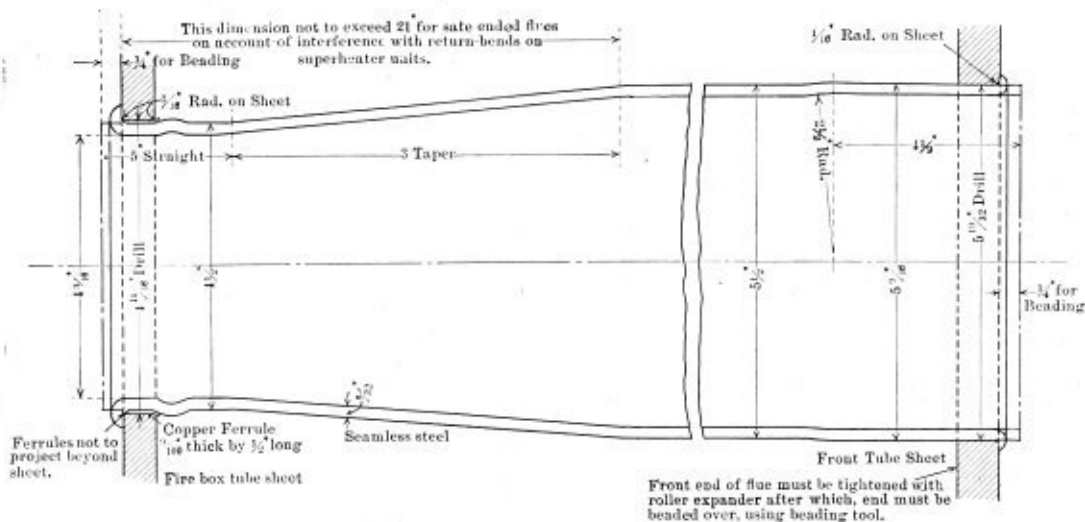

Fig. 38.—Method of Setting Superheater Flue
**Flue Setting.**—Fig. 38 covers application of superheater flues, and refers to tools required in setting, beading, rolling and prossering. This print also covers the safe-ending of these flues.
*Safe Ending.*—To be done in accordance with Fig. 38. In applying safe ends, bell the end of flue and scarf the safe end about  $\frac{3}{8}$  inch, making weld with as little obstruction as possible on the inside so as not to interfere with insertion of units. Anneal safe ends after applied, by permitting to be cooled off by atmosphere, not with water.